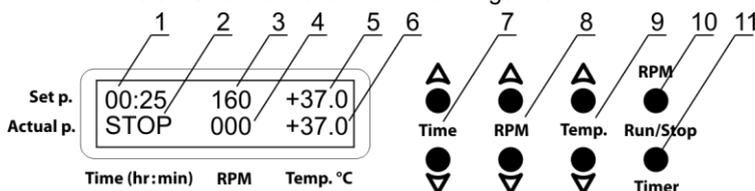

Figure 1. Control panel
- 5.3. The display turns on. The upper line shows the previously set time in hours and minutes (fig. 1/1), speed in RPM (fig. 1/3) and temperature in °C (fig. 1/5). The lower line shows current readings of the same parameters: the timer (indication STOP, fig. 1/2), speed (fig. 1/4) and chamber temperature (fig. 1/6) that automatically starts rising according to the set temperature.
- 5.4.1. **Setting time (Time).** Using the ▲ and ▼ **Time** keys (fig. 1/7) set the required working time interval in hours and minutes (increment 1 min).
- 5.4.2. **Setting speed (RPM/Shaker).** Using the ▲ and ▼ **RPM** keys (fig. 1/8) set the required shaking intensity in revolutions per minute (increment 10 rpm).
- 5.4.3. **Setting temperature (Temp.°C).** Using the ▲ and ▼ **Temp.** keys (fig. 1/9) set the required temperature (increment 0.1°C). The chamber heating starts automatically.
Caution! The chamber heating can only be stopped manually by reducing the temperature with the ▼ **Temp.** key (fig. 1/9) until the OFF indication appears in the in upper line of the **Temp.°C** display segment.
- 5.5.2. Press the **RPM Run/Stop** key (fig. 1/10, called the **Shaker Run/Stop** key on **ES-20/60**). The platform starts rotating and the timer starts counting the time interval, with 1-minute precision.
- 5.6. **Finishing the program.** After the set time elapses, the platform motion stops and the display shows a flashing reading STOP (fig. 1/2) accompanied by a repetitive sound signal until the **RPM** or **Shaker Run/Stop** key is pressed.
- 5.7. If the working time is not set and the timer in the upper line (fig. 1/1) shows 00:00, pressing the **RPM** or **Shaker Run/Stop** key starts continuous operation of the unit. The **Time** segment of the display shows an OFF indication in the upper line (fig. 1/1) and a countdown timer in the lower line (fig. 1/2). Pressing the **RPM** or **Shaker Run/Stop** key stops the platform motion.
Caution! At the end of the set time, platform movement is stopped automatically, but heating can only be stopped manually by reducing the temperature with the **▼ Temp.** key (fig. 1/9) until the OFF indication appears in the upper line of the **Temp.°C** display segment.
- 5.8. The timer can be restarted during the unit operation if necessary. Press the **Timer Run/Stop** key twice (fig. 1/11), first time – to stop the timer, second – to restart it.